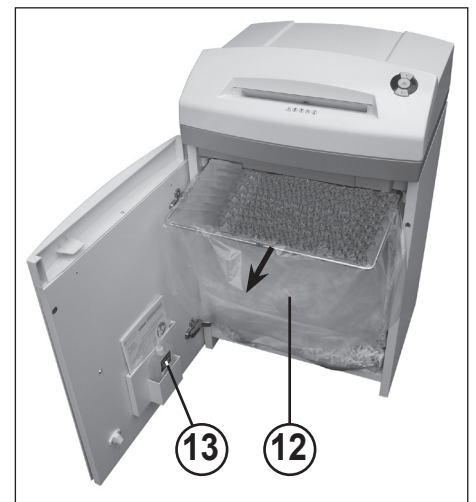

fig. 4
12 = Paper collection bag (Fig. 4)
13 = Oil reservoir (Fig. 4)
EMPTYING THE PAPER COLLECTION BAG (Fig. 4):
Cross cut cutters must be oiled after a specific operating time. If the control display (7) comes on proceed as follows: Open the door. The control display (8) comes on and the reverse button (4) LED display (4) as well as the control display (7) flashes. Remove the oil reservoir (13) (Fig. 4) from the holder in the door and close the door again.